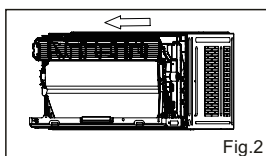
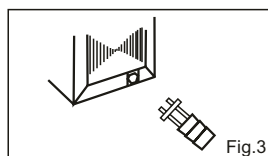

Fig.2
Fig.3
2. The air conditioner body is pumped out of the outer box and the outlet pipe is installed in the drainage hole at the back of the chassis.(Fig.2),(Fig.3)